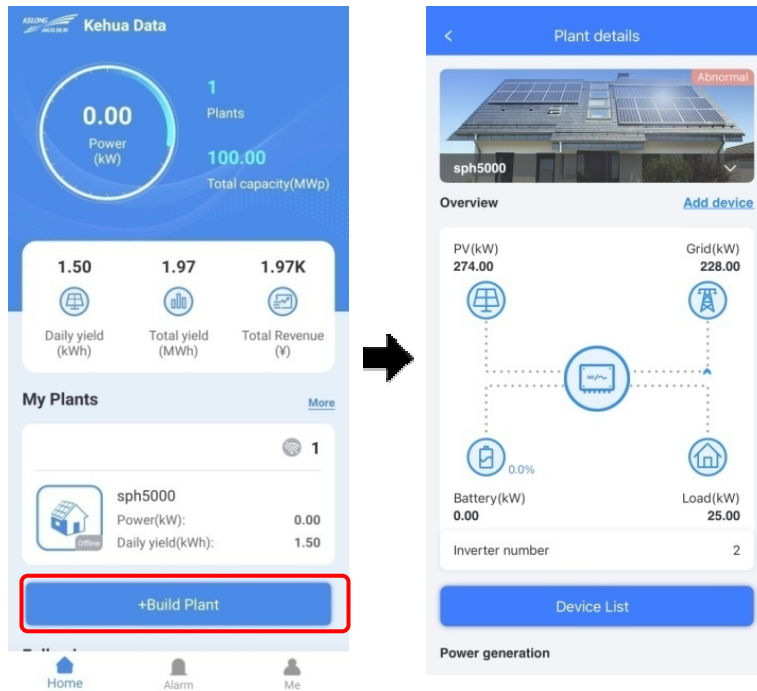

Figure3-33 Home interface
Step 4 Back to main page and click the "**Built plant**", as shown in Figure3-33.